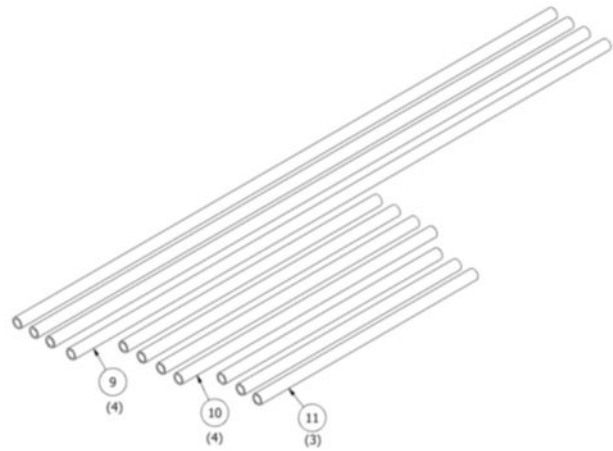

FIGURE 3
5. Lay out pipe and structural connections in an area of sufficient size to accommodate construction. The minimum recommended area for construction is 12' x 12'. **SEE FIGURE 3.**